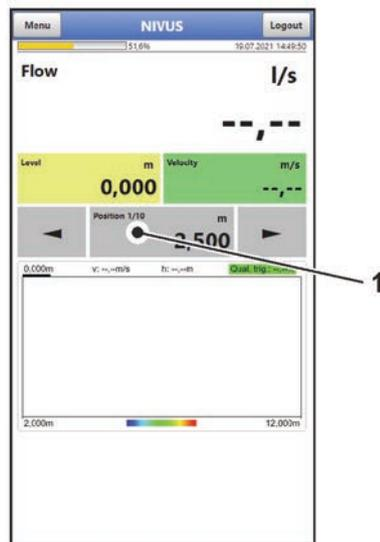

Fig. 22-1 Starting the measurement
2. Read the first measuring point/vertical in the display (start button, Fig. 22-1 Pos. 1) and locate it in the water. If the parameters are set correctly, the transmitter suggests the respective measuring points for the grid measurement.
4. Touch/click the start button (Fig. 22-1 Pos. 1) on the display and operating module and do not move the NivuFlow Stick for the duration of the measurement. The measuring data of the measuring spots are automatically transmitted to the display module and displayed.